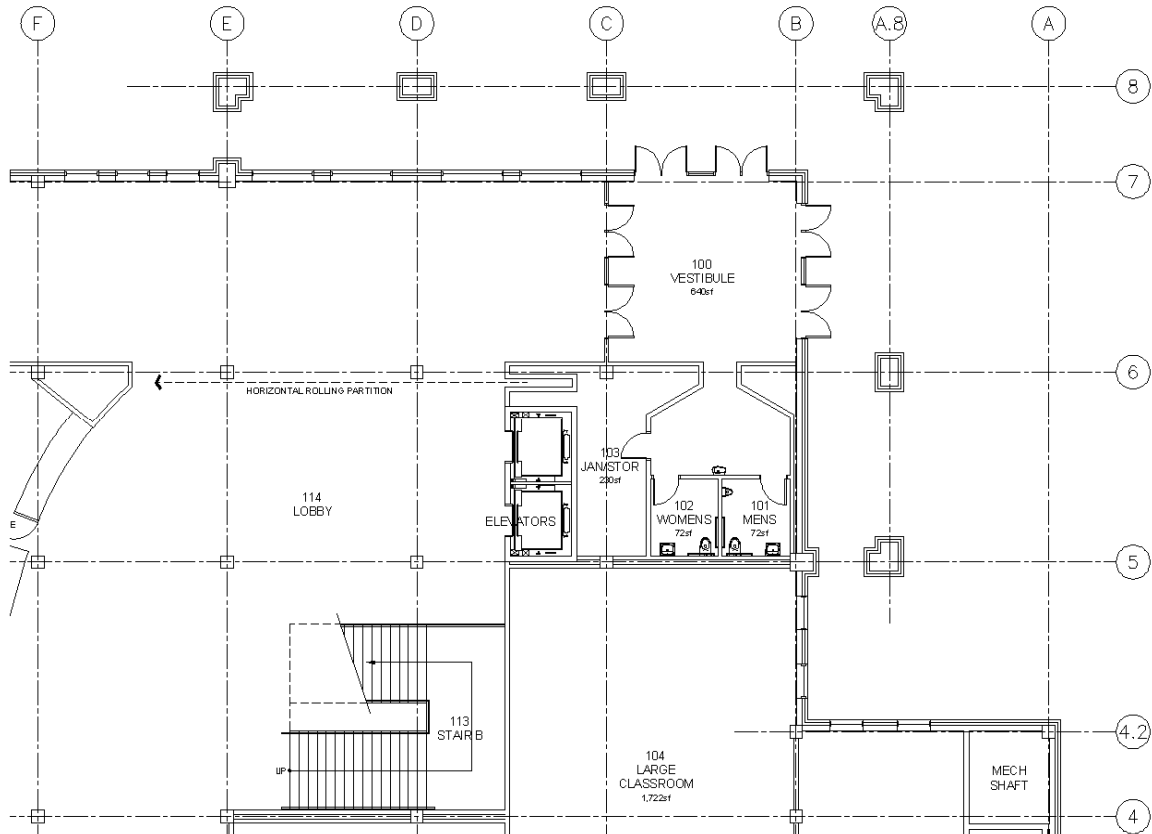

Figure 3-4.10 Adding room information
24. Per the previous instruction: create a *Polyline* and add the room information (as *Mtext* + *Field*) for the remaining rooms, as shown in Figures 3-4.10 through 3-4.13; you may ignore the areas not labeled.